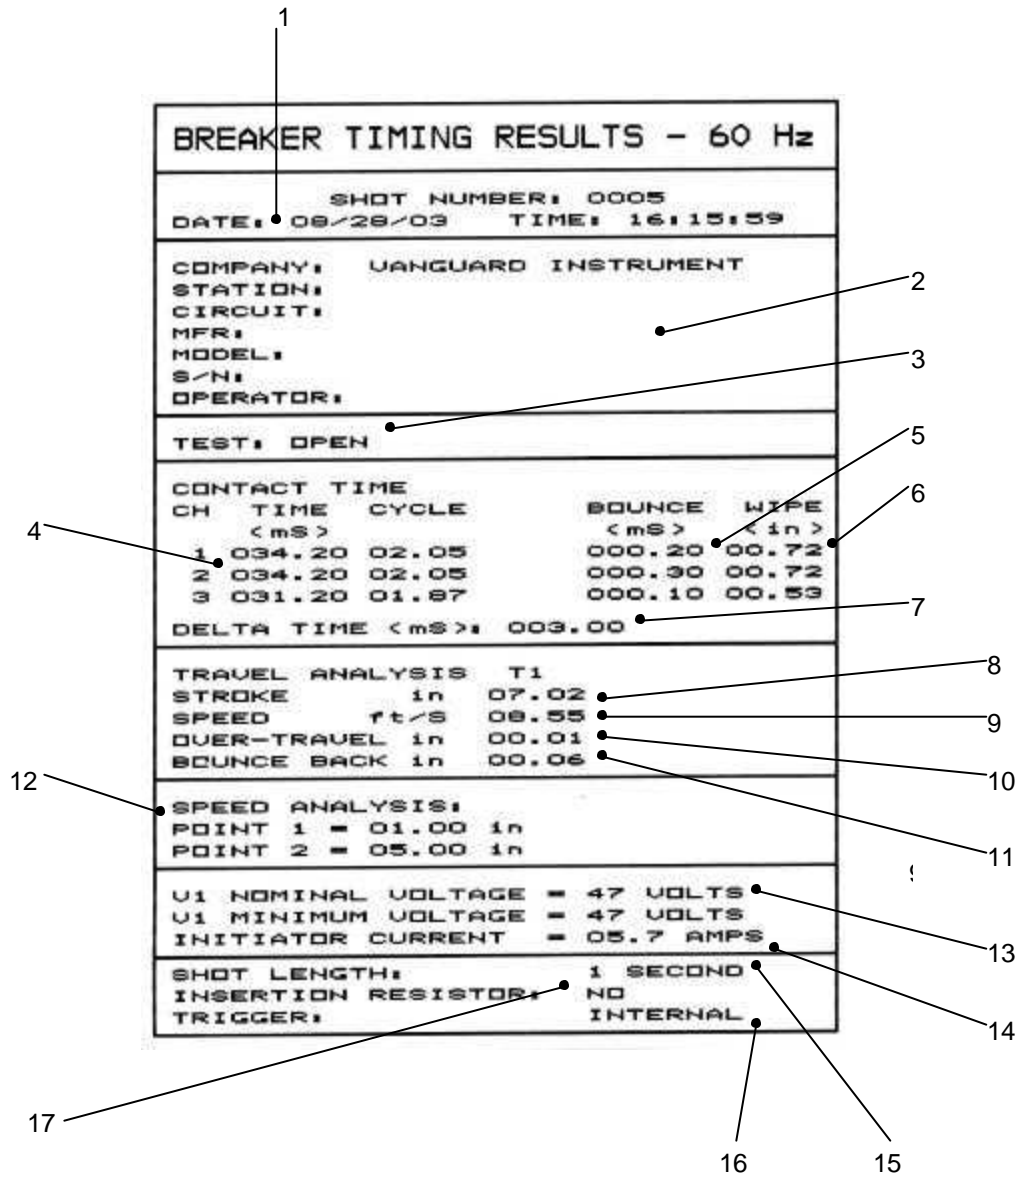

Figure 10.0 Typical Tabulated Printout of an Open Operation From the Thermal Printer
A typical circuit breaker timing result printed on thermal printer is shown in Figure 10.0.
3. Timing test type (OPEN, CLOSE, O-C, C-O, O-C-O) is identified. An OPEN timing shot is shown in figure 10.0.
4. Contact channel #1 time is shown in both milliseconds and cycles. From Figure 10.0, contact channel #1 time was 34.20 ms or 2.05 cycles.